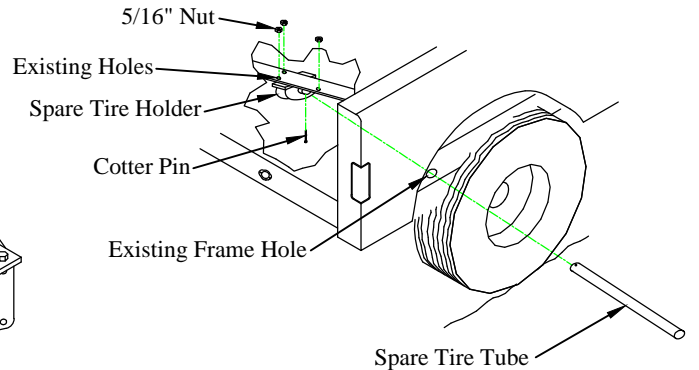

Figure 12: New spare tire holder position.
8. **Insert** the spare tire tube through the existing hole in the frame on the passenger side (Figure 12).